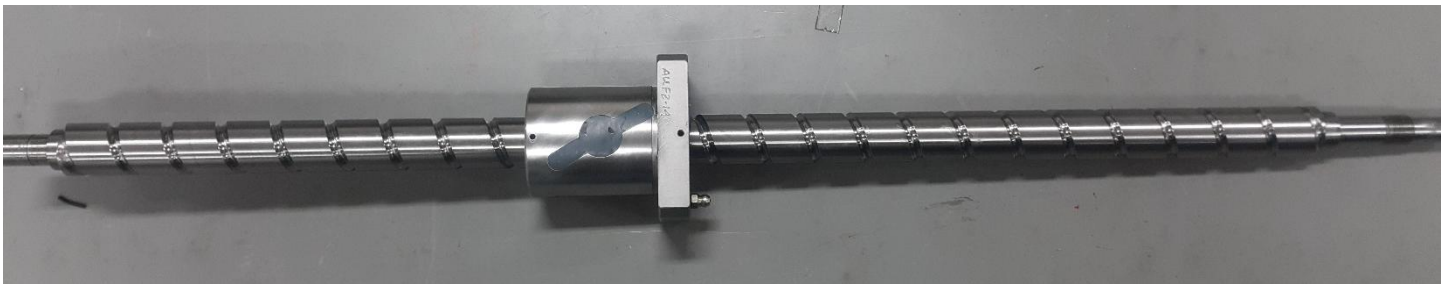

Figure 29 [4XAXY-039] X-Axis Ball Screw
23. Prepare new ball screw (By refer to below table) as below Figure 29.